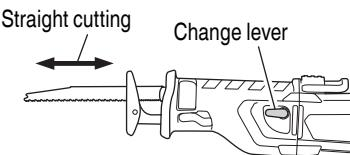
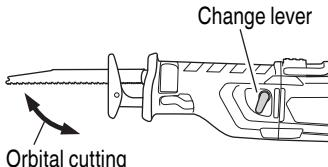

Fig. 10
Fig. 11
Two cutting systems can be selected with this unit. The first is straight cutting, in which the saw blade is moved linearly, and the second is the orbital cutting, in which the blade moves up and down, as well as back and forth. (Fig. 10, Fig. 11)
You can perform orbital cutting by setting the change lever lengthways. Orbital cutting should normally be performed when cutting soft materials such as wood, etc. Orbital cutting is efficient since the saw blade forcibly bites into the material. (Fig. 10)
- (3) Use the dial to adjust the speed of the saw blade to suit your working conditions and materials.
(4) You can cut smoothly if you set the change lever position to straight cutting (Fig. 10).
- (2) You can cut efficiently if the speed of the saw blade is set to dial scale "6".
(3) You can cut efficiently if the change lever position is set to orbital cutting (Fig. 11). Alternatively, you can cut cleanly if the change lever position is set to straight cutting (Fig. 10).